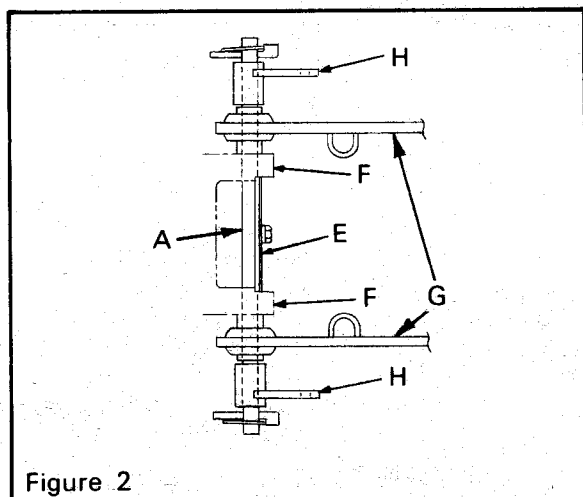

Figure 2
3. Position plate E between the lugs and fasten it to the link shaft with a flat washer, lock-washer and bolt. See Fig. 2.
4. Slide on both lower link assemblies G and both chain holders H onto the end of the link shaft. Secure with two click pins. See Fig. 2.